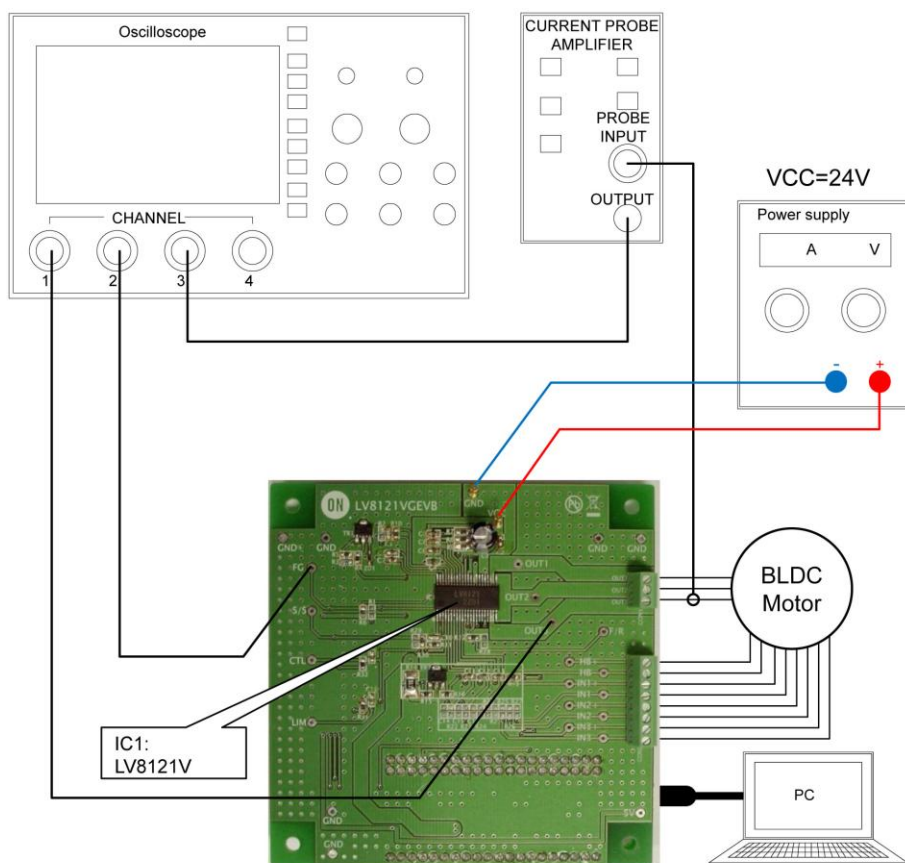

Figure 1. Setup for motor control
- Connect the test setup as shown Figure 1.